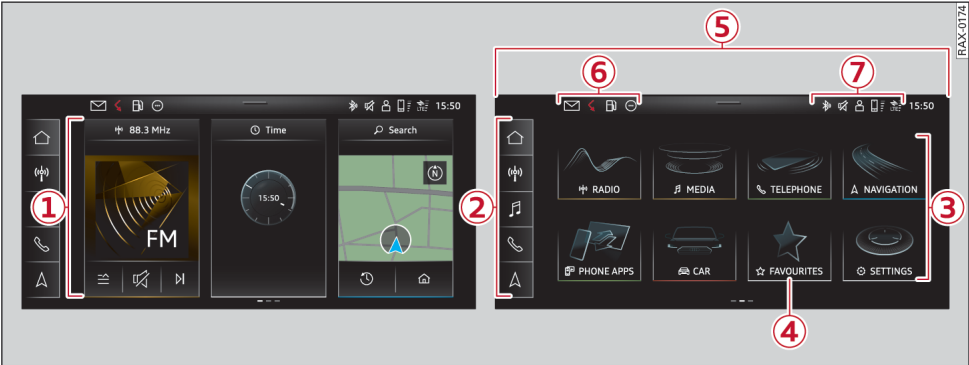
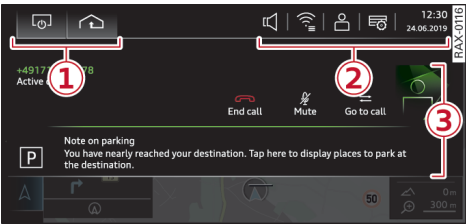

Fig. 14 MMI: Centre display
Fig. 16 Centre display: Notification centre
Notifications may be shown on the centre display. They will disappear after a certain time, and the corresponding symbol will appear in the status bar ⑥ ⇒ page 22, Fig. 14. You can view these notifications ③ ⇒ Fig. 16 and adjust the quick settings ② or operate functions ① in the notification centre.